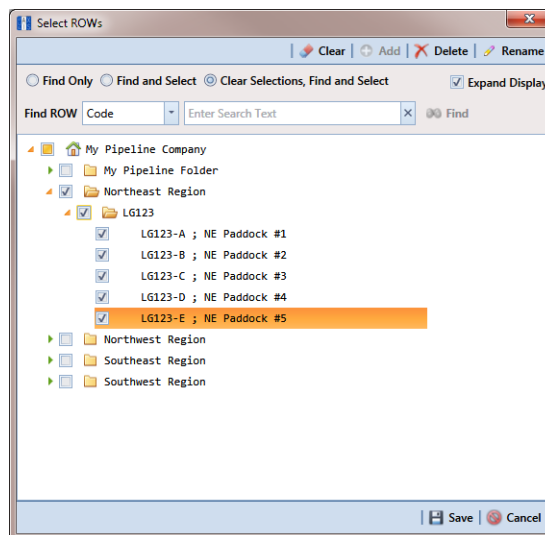

Figure 6-3. Select ROWs
- 1 Click the **Select ROWs** button  to open the *Select ROWs* window (Figure 6-3). Select the pipeline segment(s) with the facilities you want to work with, then click  **Save** to close the window.
- 1 Click the **Select ROWs** button  to open the *Select ROWs* window. Select the pipeline segment(s) associated with the continuous survey folder you want to delete. Then click  **Save** to close the window (Figure 6-3, page 185).
- 1 Select one or more pipeline segments in the *Select ROWs* window. Click  **Save** to close the window (Figure 6-3, page 185).